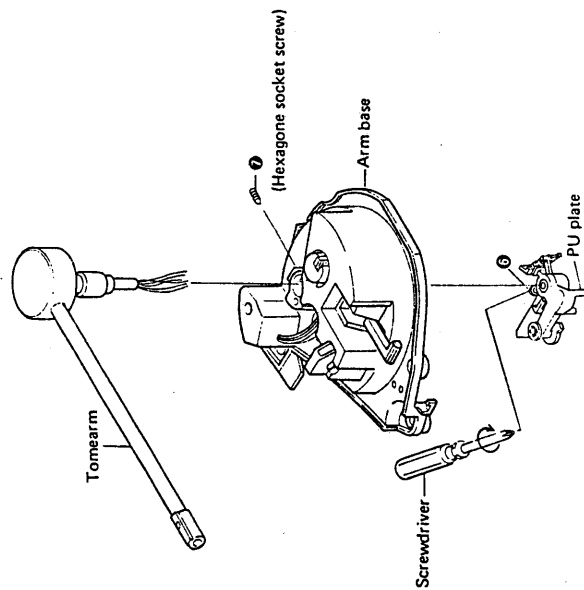

Fig. 3-3 Remote tonearm
2. Loosen the set screw ③ with a screwdriver to remove the PU plate under the arm base (See Fig. 3-3).
3. Undo the screw ④ securing the tonearm to the arm base (See Fig. 3-3).